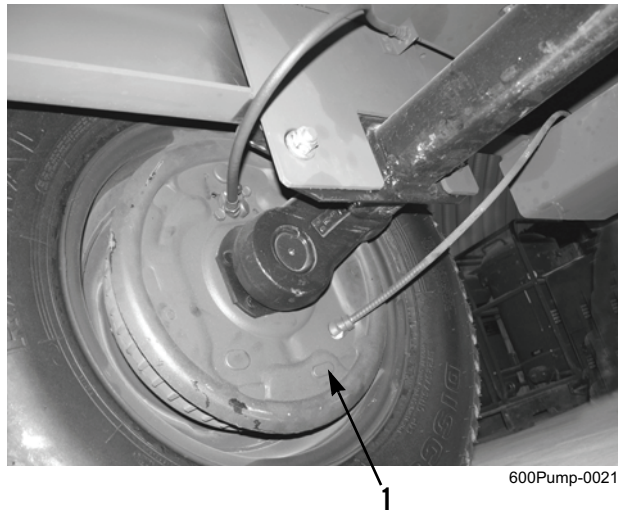

Figure 1. Adjustment Slot at Backing Plate.
5. Remove protective plug (Figure 1, Item 1) from adjustment slot in backing plate.